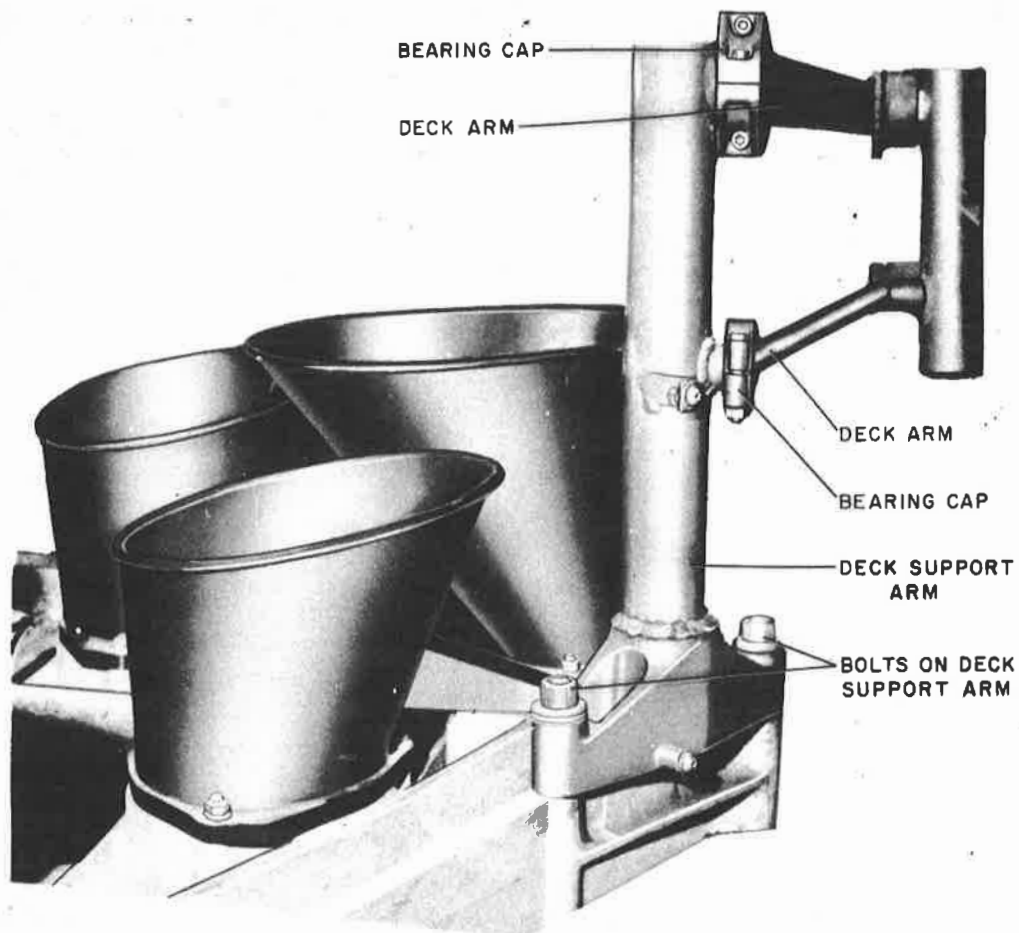

Figure 70. Pin Spotting Adjustment
14. DECK PIN SPOTTING ADJUSTMENT. (FIGURE 70)